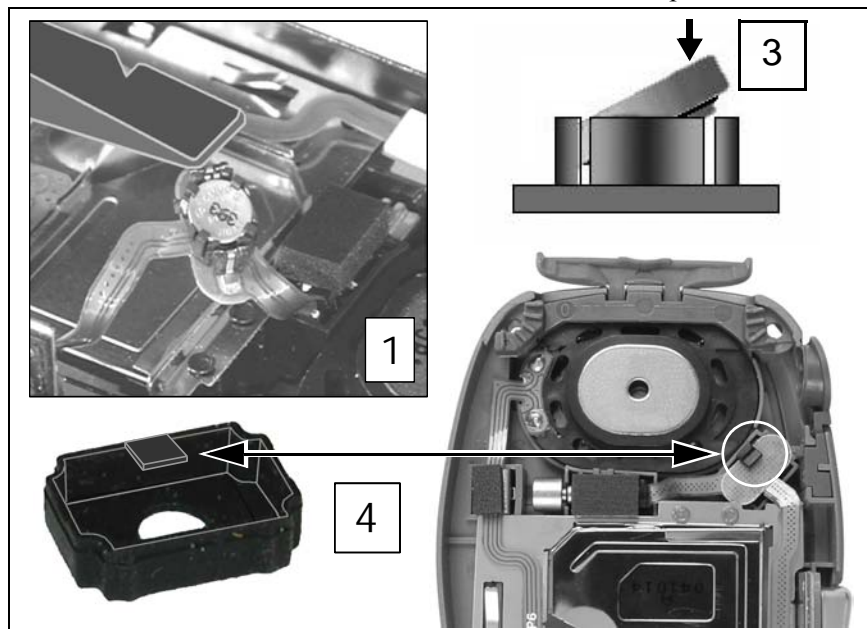

Figure 7-14.
1. Hold back Flex ribbon containing coin cell holder (see Figure 7-14).